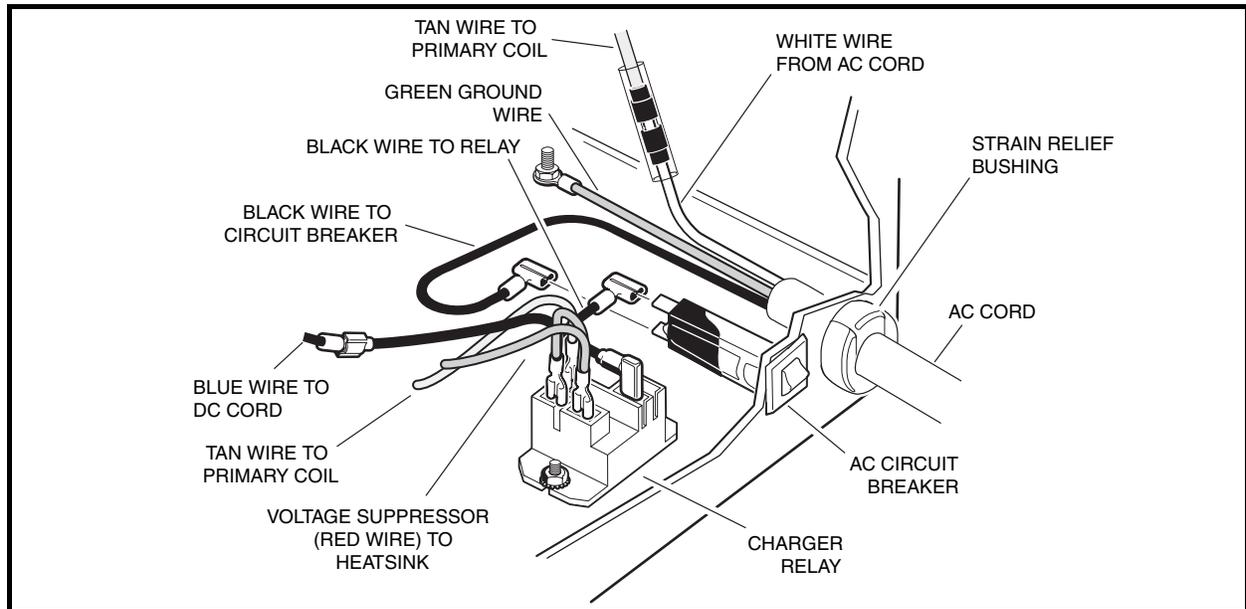

Figure 3-22 Charger Relay
3. Remove nut attaching voltage suppressor (18-gauge red wire) to heatsink (**Figure 3-22, Page 3-29**).
NOTE: The charger relay blade connector is located off-center within the relay housing. When connecting voltage suppressor slip-on connector to relay blade connector, make sure slip-on connector is positioned so that flat side of connector is closest to relay housing (**Figure 3-22, Page 3-29**).
3. Disconnect all wires from the relay (**Figure 3-22, Page 3-29**).
1. Install in reverse order of removal. Connect wires as shown (**Figure 3-22, Page 3-29**). Tighten nut securing relay to charger base to 18 in-lb (2.0 N·m).
3. Disconnect the two black wires attached to the AC circuit breaker (**Figure 3-22, Page 3-29**).
3. Disconnect the AC cord black wire from the AC circuit breaker (**Figure 3-22, Page 3-29**).
5. Disconnect the AC cord green wire from the charger base (**Figure 3-22, Page 3-29**).
1. Insert the black, white, and green leads of the new AC cord into the charger through the hole in the charger face (**Figure 3-22, Page 3-29**).